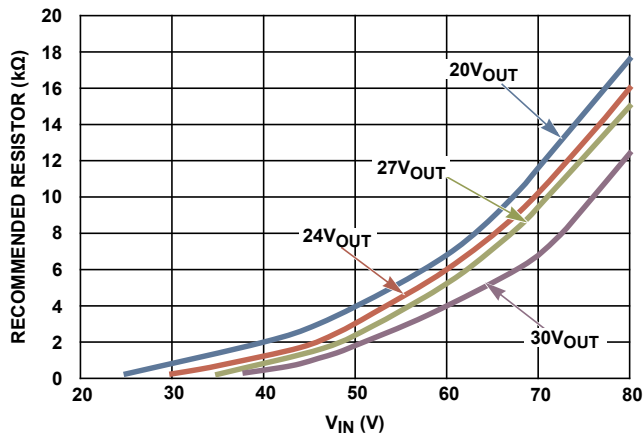
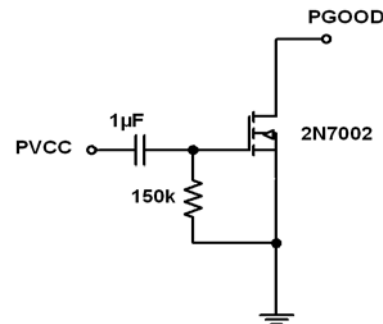

FIGURE 23. RECOMMENDED EXTERNAL RESISTOR VALUE FROM BOOT TO PVIN
FIGURE 25. PGOOD DELAY CIRCUIT
The internal bootstrap diode connected to the PVCC pin provides charge for the internal bootstrap capacitor. For above 12V_{OUT} applications, a resistor connecting between BOOT pin and VIN pin is recommended for certain conditions. Refer to Table 3. This resistor provides additional bootstrap charge introduced from V_{IN}, which can ensure the gate drive circuit functions properly at very light load. See Figure 23 for the recommended external resistor values at 20V_{OUT}, 24V_{OUT}, 27V_{OUT}, and 30V_{OUT} conditions. A minimum 0.25W power rating is recommended for this resistor.
For >12V_{OUT} applications where V_{IN} power-up/down (module self enable/disable) is required and PGOOD signal is utilized, a PGOOD delay circuit and a 1kΩ, 1W rating dummy load resistor are recommended. The PGOOD delay circuit is shown in Figure 25. Note when the dummy load resistor is used, the resistor between V_{IN} and BOOT (Figure 23) is no longer required. During V_{IN} power-up (module self enable) for >12V_{OUT} applications at very light load current, without such a delay circuit, V_{OUT} may have a drop after initially reaching the target due to the lack of bootstrap charge. With such a delay circuit, the PGOOD signal can be delayed for 250ms. For applications of ≤12V_{OUT}, the PGOOD delay circuit is not required.
- Refer to Figure 23 for VIN-BOOT resistor (R_{BOOT}) value.